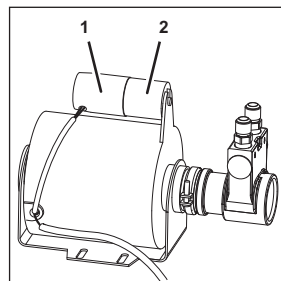

Figure 125
1. Remove the protective cap (Figure 125/1) from the run capacitor (Figure 125/2).
7. Connect the plugs (Figure 125/1) of the run capacitor (Figure 125/2).
8. Attach the protective cap (Figure 125/1) to the run capacitor (Figure 125/2).